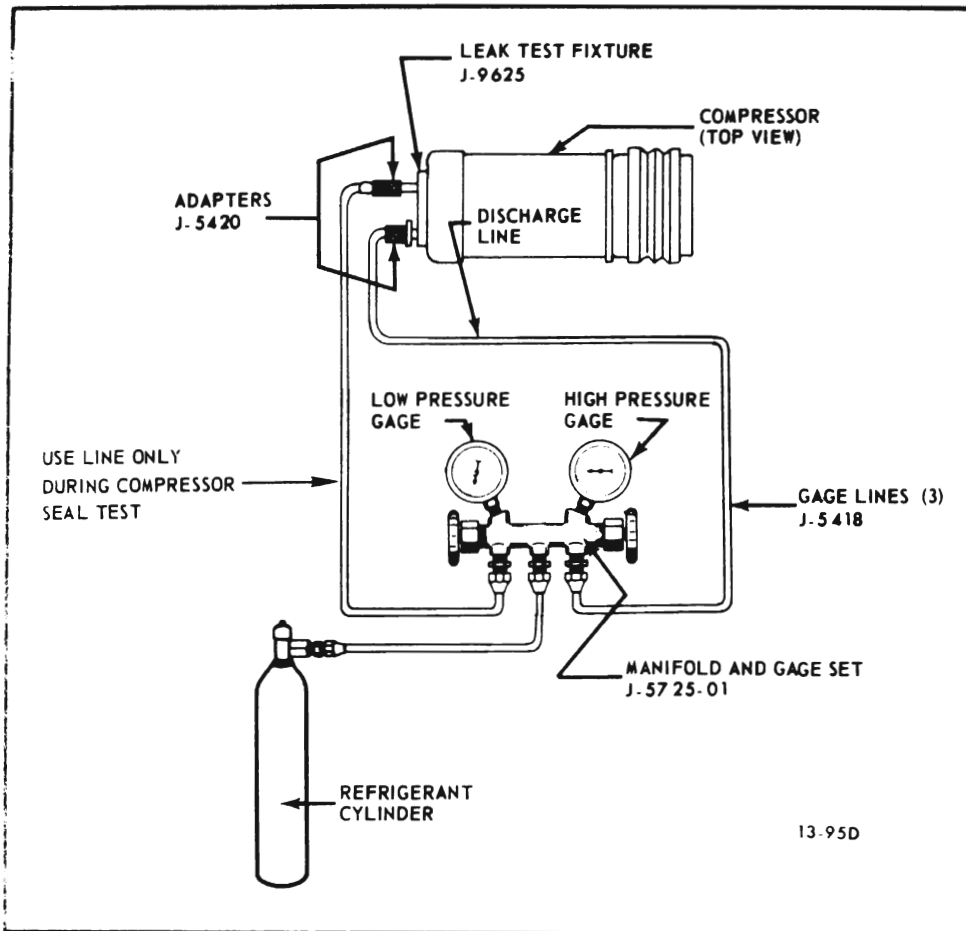

Figure 13-69 Leak Testing Shaft Seal and Seal Seat "O" Ring
6. Install Compressor Leak Test Fixture (J-9625) on rear head of compressor and connect gage charging lines as shown in Figure 13-69. Pressurize suction side of compressor with Refrigerant-12 vapor to drum pressure. Temporarily install the shaft nut and, with compressor horizontal and oil sump down, rotate the compressor shaft in normal direction of rotation several times by hand. Leak test the seal with a propane torch type leak detector in good condition. Correct any leak found. Remove and discard the shaft nut.